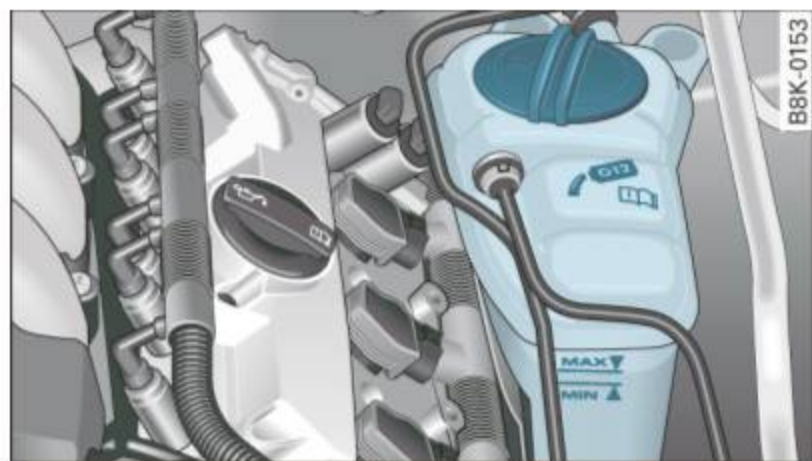

Fig. 206 Engine compartment: Coolant expansion tank
- Place a thick rag over the coolant expansion tank ⇒ fig. 206 and **carefully** twist the cap counter-clockwise ⇒ ⚠.
- Read the engine coolant level in the open coolant expansion tank ⇒ fig. 206. With a cold engine, the coolant level should be between the "min" and "max" markings. When the engine is warm, the level may be slightly above the "max" marking.
- Place a thick rag over the coolant expansion tank ⇒ *page 267*, fig. 206 and **carefully** turn the cap counter-clockwise ⇒ **⚠**.